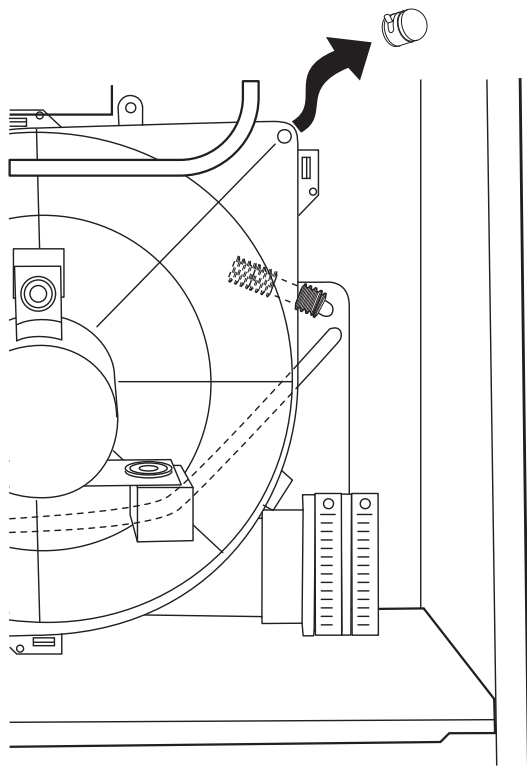

Fig. 50 - Inducer Housing Drain Tube
1. Remove upper inducer housing drain connection cap. (See Fig. 50.)